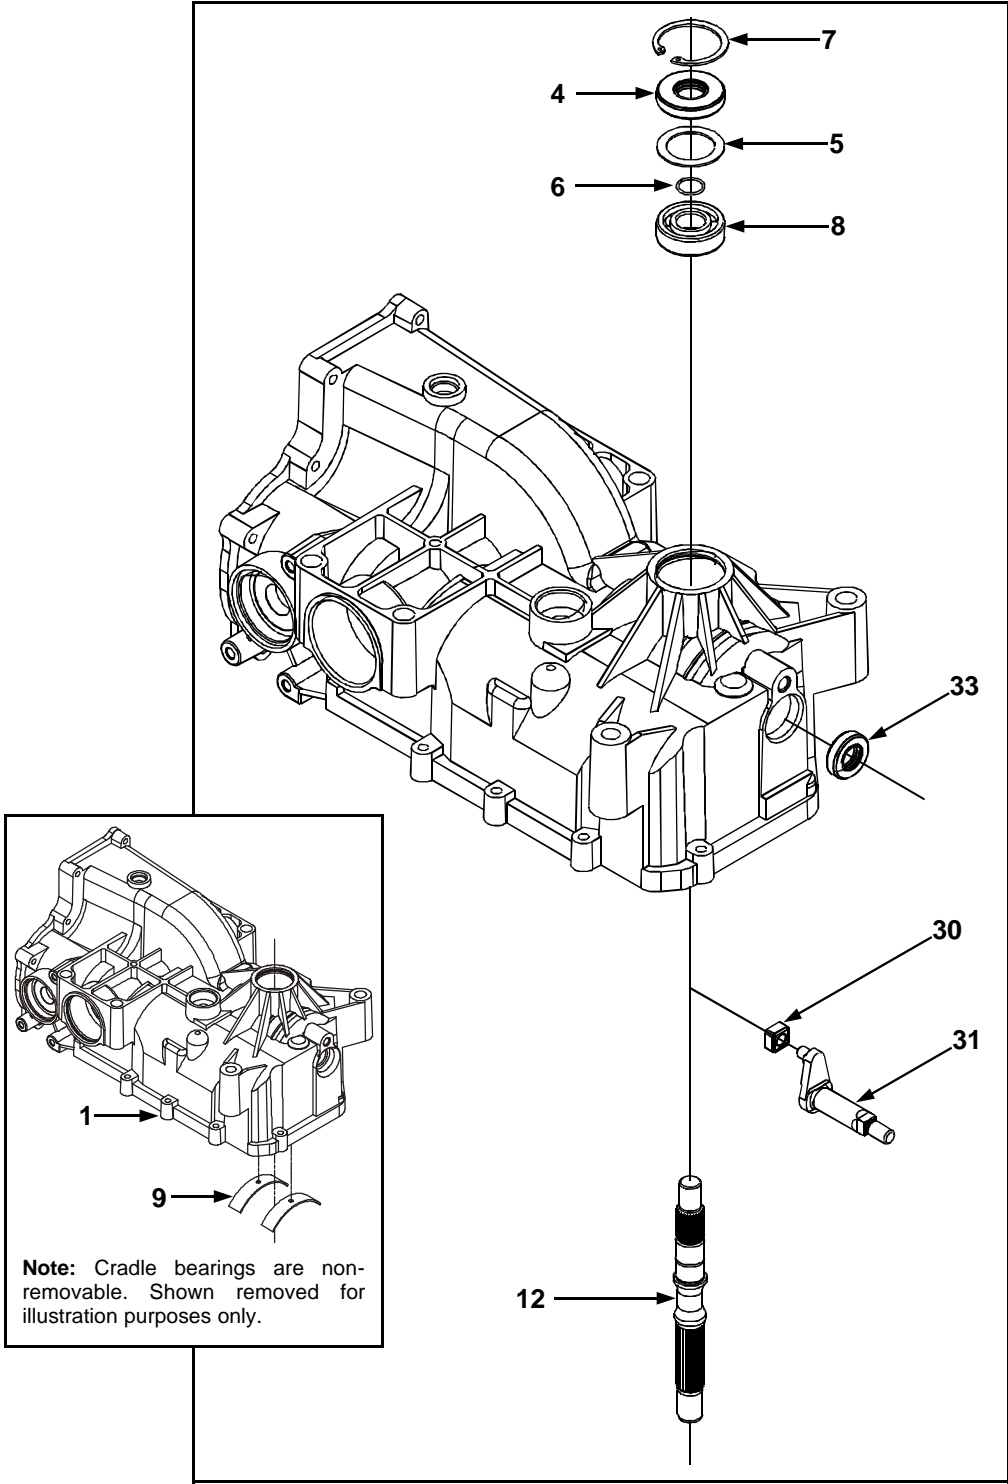

Figure 16. Input Shaft and Trunnion Arm Assembly
7. Remove the three screws (44) holding the center section (3) to the upper housing (1). Lift to remove the center section (3) and motor cylinder block assembly (21). Remove the two pins (43).
8. Remove the motor cylinder block assembly (21).
9. Remove the motor block thrust bearing assembly (25). **Note: The thick race is located nearest to the pistons when assembled properly.**
10. Remove the pump block assembly (15).
11. Remove the pump block spring (14), washer (24) and swashplate assembly (10).
12. Remove the thrust bearing assembly (11). **Note: The thick race is located nearest to the pistons when assembled properly.**
13. Remove the slot guide (30, Fig. 16).
14. Remove the bypass arm retaining ring (42), bypass arm (41) and bypass lip seal (40). Discard the lip seal.
1. Install a new bypass lip seal (40). Install the bypass arm (41) and retaining ring (42) onto the bypass actuator (39).
2. Install the slot guide (30, Fig. 16).
3. Install the swashplate assembly (10) (including the thrust bearing assembly). **Note: Install the thrust bearing assembly (11) with the thick race towards the pistons.**
4. Actuate the trunnion arm (31) and swashplate (10) to verify free movement.
5. Install the pump block washer (24) and spring (14).
6. Install the pump block assembly (15).
7. Center the by-pass actuator (39) in the housing pocket.
Refer to Figure 16.